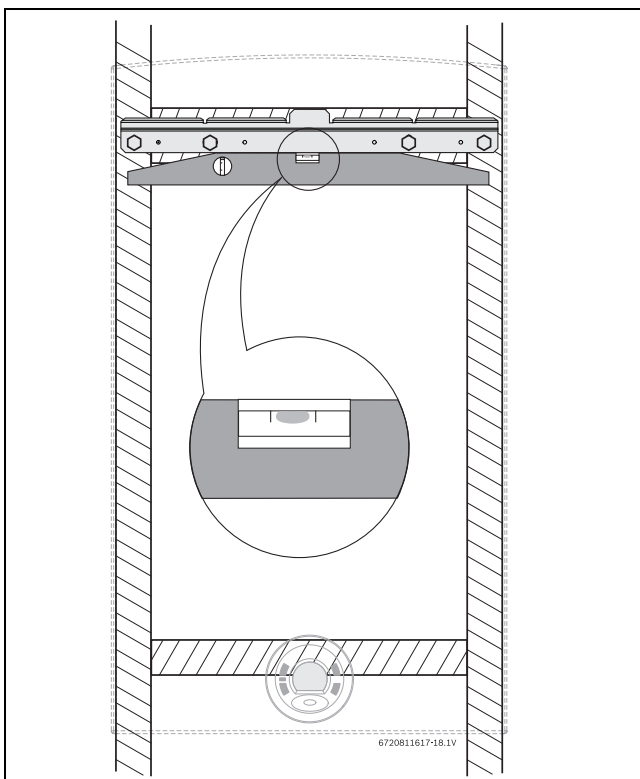

Fig. 31 Leveling wall mounting bracket
- ▶ Secure the wall mounting bracket provided with the heater to a wall surface. The heater must be kept level on the wall surface, see fig. 31, page 25.